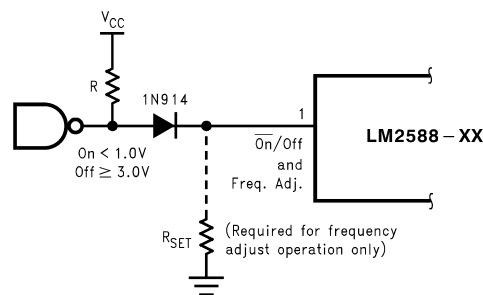

Figure 20. Shutdown Operation
- (1) All room temperature limits are 100% production tested, and all limits at temperature extremes are specified via correlation using standard Statistical Quality Control (SQC) methods.
- (2) To measure this parameter, the feedback voltage is set to a high value, depending on the output version of the device, to force the error amplifier output low and the switch off.
- (3) To measure this parameter, the feedback voltage is set to a low value, depending on the output version of the device, to force the error amplifier output high and the switch on.
- (4) To measure the worst-case error amplifier output current, the LM2588 is tested with the feedback voltage set to its low value (specified in Note 3 under the Electrical Characteristics: All Output Voltage Versions ⁽¹⁾ table) and at its high value (specified in Note 2 under the Electrical Characteristics: All Output Voltage Versions ⁽¹⁾ table).
- (5) When testing the minimum value, do not sink current from this pin—isolate it with a diode. If current is drawn from this pin, the frequency adjust circuit will begin operation (see Figure 20).
A feature of the LM2588 is its ability to be shut down using the \overline{ON} /OFF pin (pin 1). This feature conserves input power by turning off the device when it is not in use. For proper operation, an isolation diode is required (as shown in Figure 20).
The device will shut down when 3 V or greater is applied on the \overline{ON} /OFF pin, sourcing current into pin 1. In shut down mode, the device draws typically 56 μ A of supply current (16 μ A to V_{IN} and 40 μ A to the \overline{ON} /OFF pin). To turn the device back on, leave pin 1 floating, using an (isolation) diode, as shown in Figure 20 (for normal operation, do not source or sink current to or from this pin—see the next section).
The switching frequency of the LM2588 can be adjusted with the use of an external resistor. This feature allows the user to optimize the size of the magnetics and the output capacitor(s) by tailoring the operating frequency. A resistor connected from pin 1 (the Freq. Adj. pin) to ground will set the switching frequency from 100 kHz to 200 kHz (maximum). As shown in Figure 20, the pin can be used to adjust the frequency while still providing the shut down function. A curve in the Performance Characteristics Section graphs the resistor value to the corresponding switching frequency. The table in Table 1 shows resistor values corresponding to commonly used frequencies.